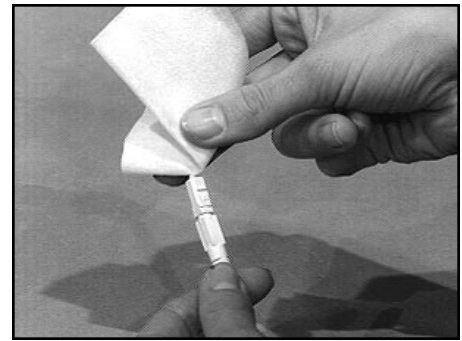

Fig. G1
2. WIPE THE CERAMIC FERRULE WITH AN ISOPROPYL ALCOHOL DAMPENED LINT-FREE CLOTH (Fig. G1)